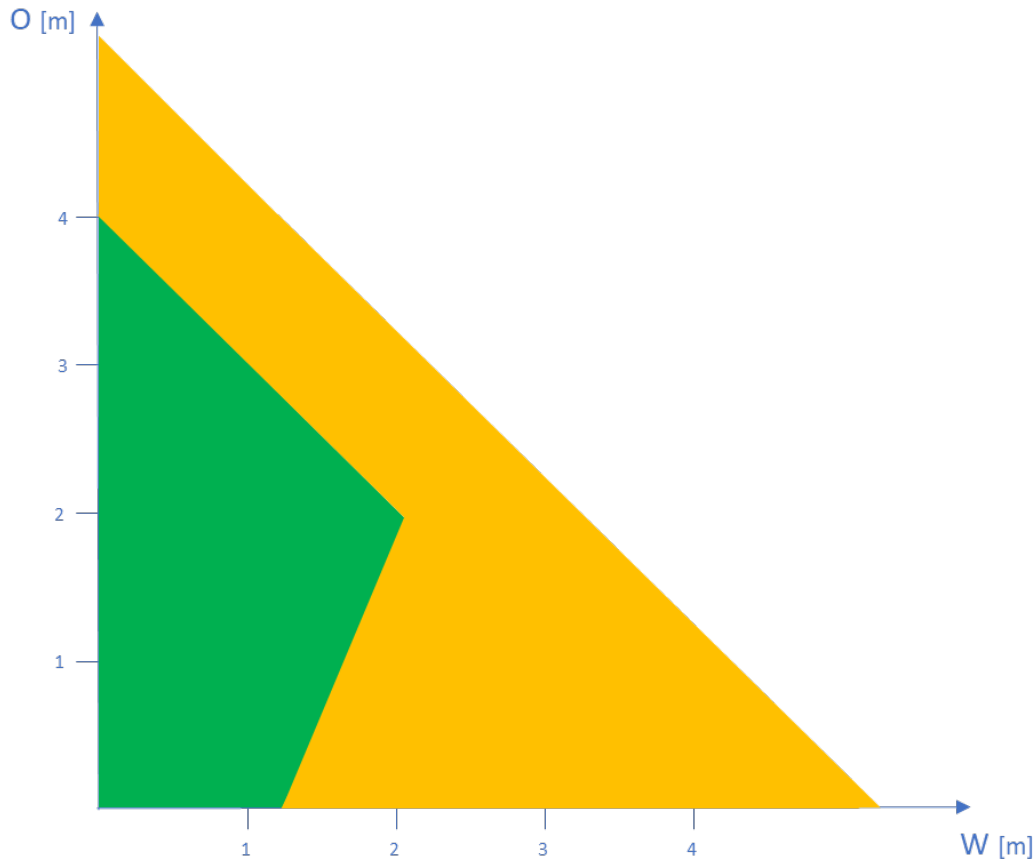

Figure 6: precision in function of offset (O) and width of bicycle path (W) for an installation height (H) of 2 m
The higher the radar is installed, the larger vertical angle of the radar to detect the cyclists and therefore the smaller the detection Distance (D). Figure 6 shows in green the possible combinations of Offsets and Width at installation height of 2 m for a high degree of precision (97 % or more). The orange area shows the combinations of Offsets and Width for which the detection precision will drop below 97 %.
Assuming that the minimum height of the saddle is 1m and that the minimum height of the cyclists' heads is 1.6m, the maximum Width W of the bicycle path with Offset zero is 1.25 m as shown in Figure 6 for an installation height at 2m.